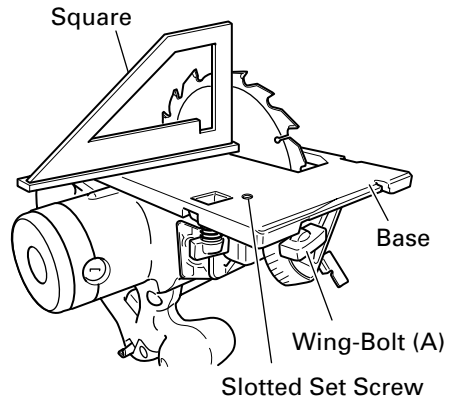

Fig. 29
- (1) Turn the base face up (Fig. 29) and loosen the wing bolt (A).
- (2) Apply a square to the base and the saw blade and, turning the slotted set screw with a slotted-head screwdriver, shift the position of the base to produce the desired right angle.